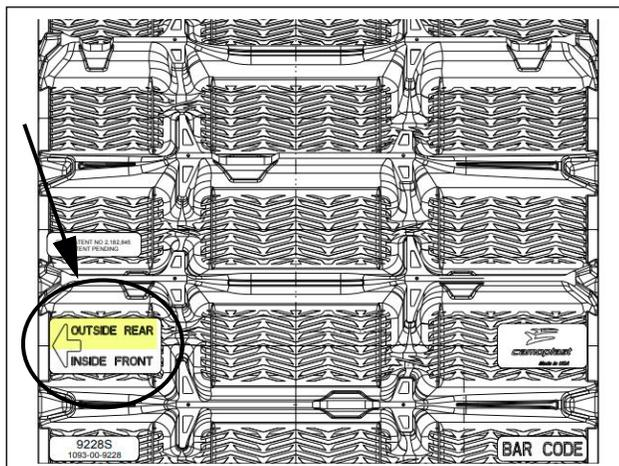

Figure 31
**Rear track:** arrow molded on rear tracks must point out, away from Track system frames. See Figure 31.